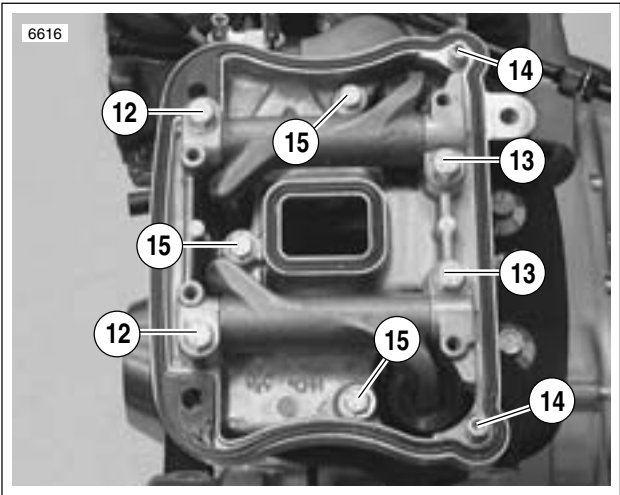

Figure 3-66. Lower Rocker Box Fasteners
15. See Figure 3-66. Install fasteners. Slowly snug all fasteners in small increments (one turn at a time). Use a cross pattern on the four large bolts) that fasten the lower rocker box to head. This will bleed the tappets. Fastener sizes and torque specifications are listed in Table 3-8.